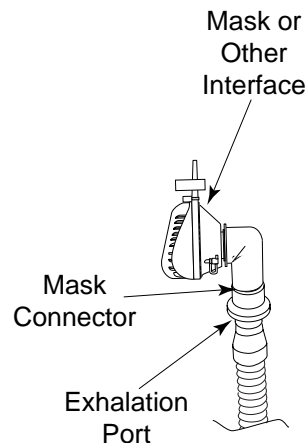

Figure 4-5 Connect the Mask
STEP 3 Connect the exhalation port to the mask connector as shown in Figure 4-5.